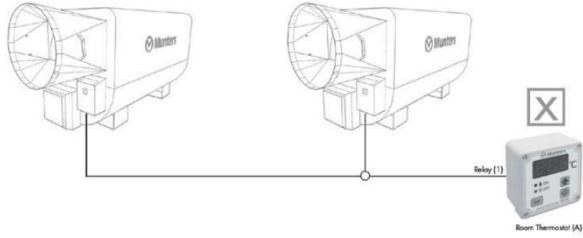

fig.12
- do not connect more than one generator to a single contact (see fig. 12/13/14/15);